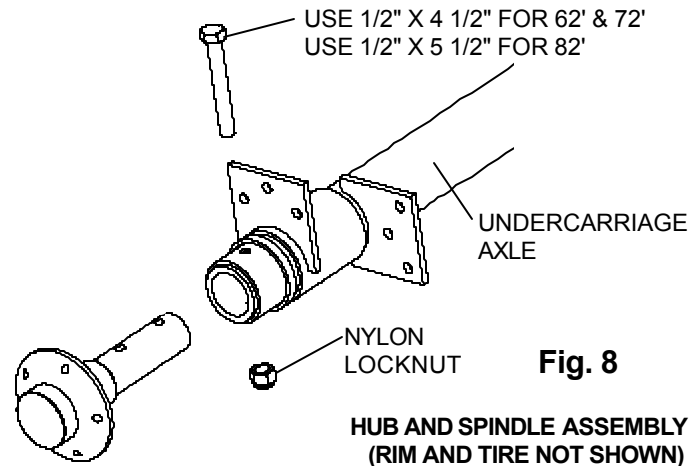

Fig. 8
- Slide the hub and spindle assembly into the undercarriage axle and secure with 1/2" dia. (Grade 5) hex head cap screw and nylon locknut. (See Fig. 8.) Mount the tire and rim to the hub with lug bolts.